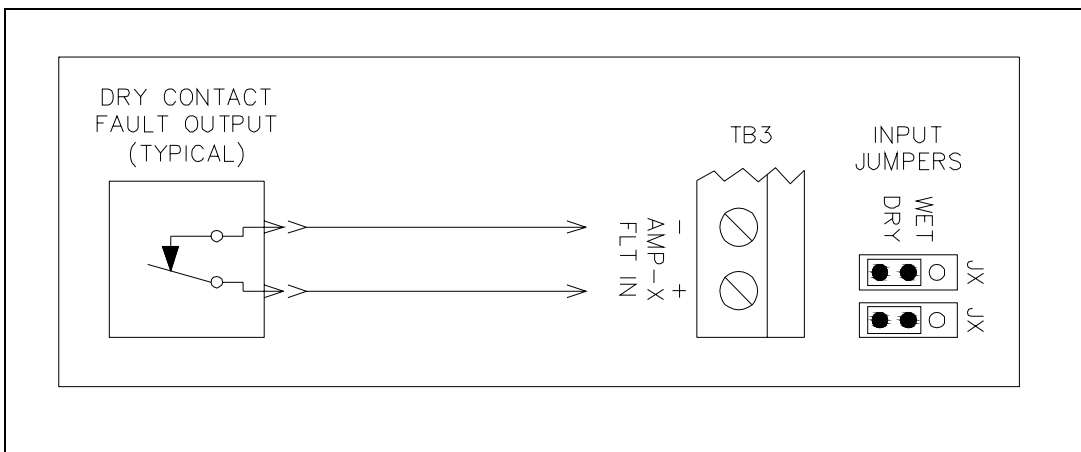

Figure 3. Dry Contact Fault Connection
**DRY (N.C.) CONTACT OUTPUT** – requires the amplifier to provide a dry, normally closed contact when operating in a healthy state and the respective jumper clips set to the dry position. Connection of the amplifier's normally closed fault contact connects across the **+** (plus) and **-** (minus) terminals at the module. Refer to Figure 3 for a connection detail.